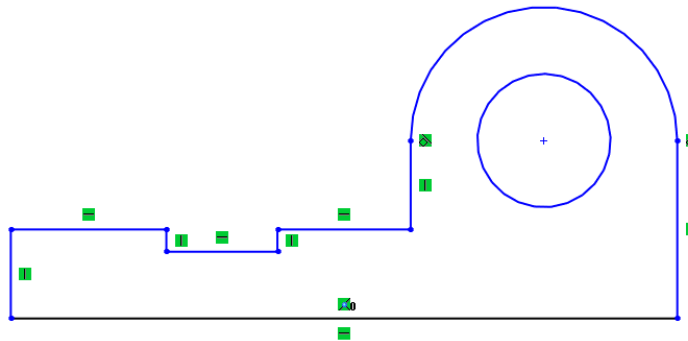

Figure 2-66 Final sketch for Tutorial 3
18. Choose the **Zoom to Fit** button from the **View (Heads-Up)** toolbar to fit the sketch into the screen. This completes the outer loop of the sketch. The sketch after drawing the outer loop appears, as shown in Figure 2-66.
The final sketch for Tutorial 3 is shown in Figure 2-66.